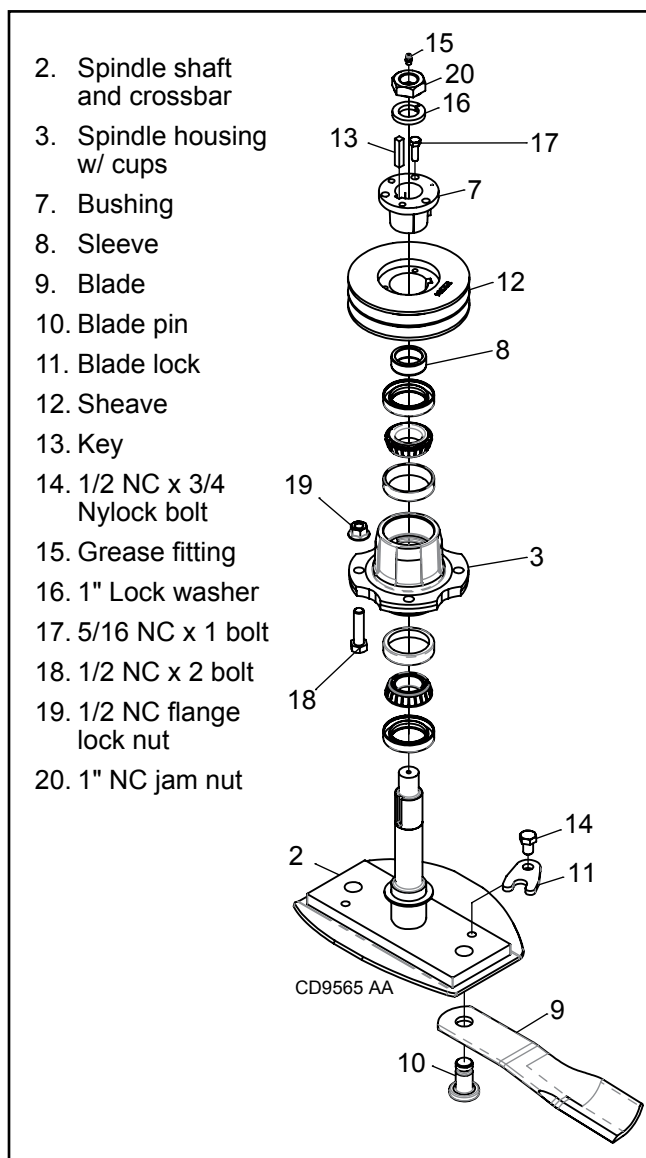

Figure 24. Sheave and Blade Assembly
2. Remove blade (9) from spindle (2). See Blade Removal on page 24.
4. Remove jam nut (20) and washer (16) from top of spindle shaft. See Figure 24.
5. Disassemble split taper bushing (7) located at the top of the sheave by removing the three 5/16 NC bolts (17) and key (13).
6. Insert 5/16 NC bolts (17) into the threaded holes of bushing flange.
7. Tighten bolts (17) alternatively to remove split taper bushing (7).
8. Remove sheave (12).
9. Remove 1/2 NC bolts (18) and flanged lock nuts (19) that attach spindle to mower frame and remove spindle.
10. Remove grease fitting (15) from top of shaft.
1. Install spindle through bottom of mower and secure with four mounting bolts and flange lock nuts (18 & 19). See Figure 24.
2. Install sleeve (8), sheave (12) and split taper bushing (7) with integral key (13) on spindle shaft. Make sure spindle groove measures the same height from the deck plate as the gearbox sheave. See Figure 24 & 25.
4. Install lock washer (16) and nut (20) on spindle shaft. Tighten nut to 120 lbs-ft. **Do not over tighten.** Check shaft to make sure it spins freely. Make sure spindle groove still measures same height from the deck plate as the gearbox sheave.